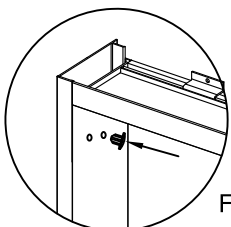
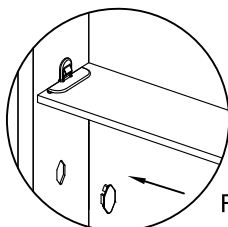

Fig 18
Fig 19
3 .Fill remaining holes with hole plugs③ (Fig 18). Fill the rest of shelf clip holes with decorative covers ⑬ (Fig 19).